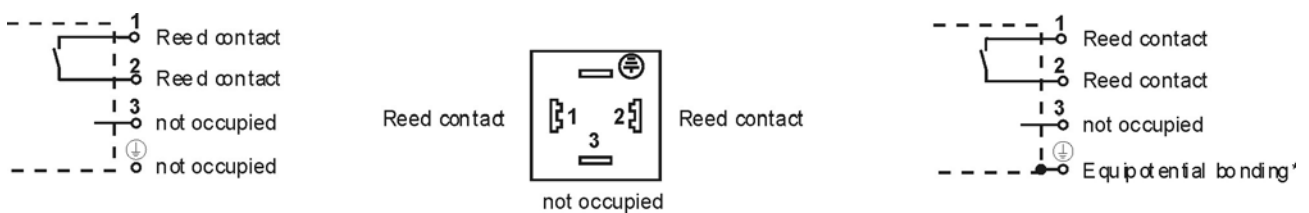

Fig. 11
- ⇒ Feed the connecting cable into the junction box via the screw connection (pos. 5), the clamping ring (pos. 10) and the rubber insert (pos. 9) and subsequently connect the wires as displayed in the connection diagram (see Fig. 11).
- ⇒ Press the core (pos. 8) until it locks into position in the junction box (pos. 2).
- ⇒ Tighten the cable gland PG 9 (pos. 5).
- ⇒ Place the junction box (pos. 2) on the connector (pos. 1) and retighten the central screw (pos. 6).